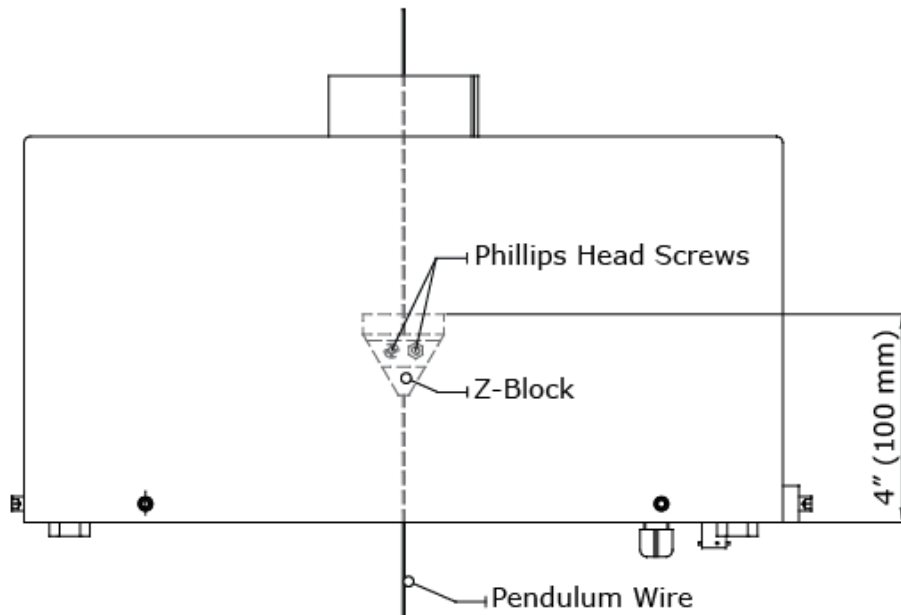

Figure 9 - Positioning of the Z-block
- 11) Position the Z-block on the pendulum wire at a height of approximately 100 mm (4") above the pendulum table. Using a Phillips head screwdriver, tighten the two screws in the Z-block so that it clamps onto the pendulum wire. Figure 9 shows the positioning of the Z-block.